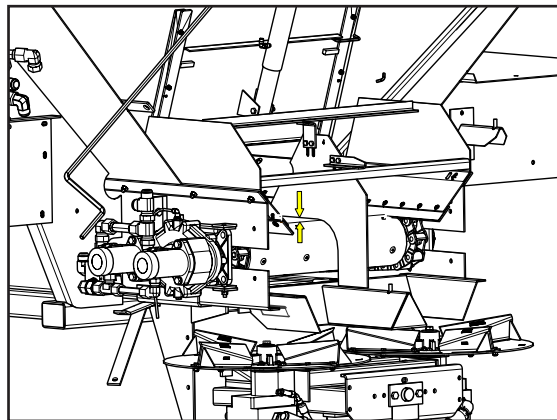

Figure 9
11. Figure 9 - Lastly, ensure that the Hillside Divider panel has proper clearance from the belt. The bottom edge of the divider panel should be approximately 3/8" (1cm) from the rubber belting of a #4 BOC.